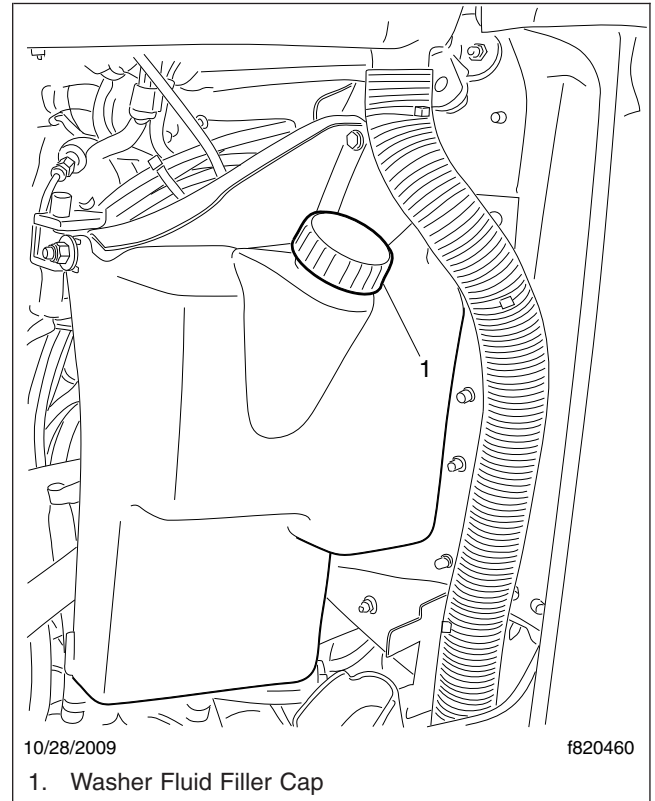

Fig. 20.7, Windshield Washer Reservoir
1. Check the windshield washer reservoir fluid level. The reservoir is usually located near the right-hand frame rail. See Fig. 20.7.
- 3.3 Inspect the drain hoses installed on the rain tray. Both hoses should be securely attached to the rain tray and direct water down the aft side of the front fenders. See Fig. 20.7.